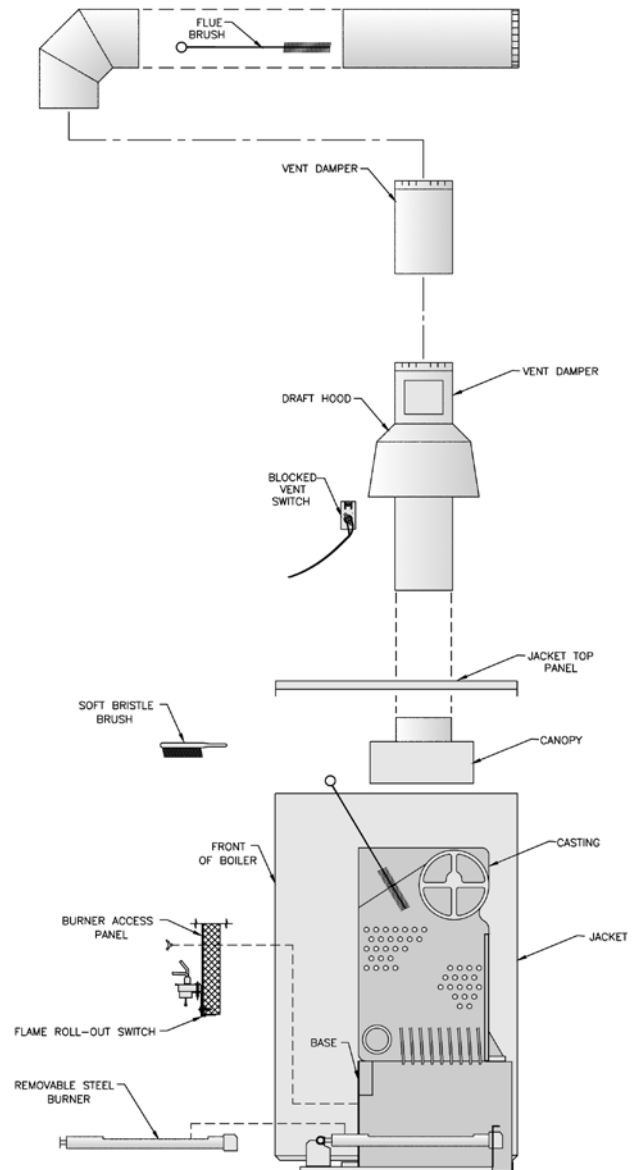

Figure 19: Flueway Cleaning
- b. For Intermittent Ignition (EI), disconnect igniter cable, sensor cable and ground wire at Ignition Module.
2. Brush top of burners with a soft bristle brush. See Figure 19. Vacuum burners.